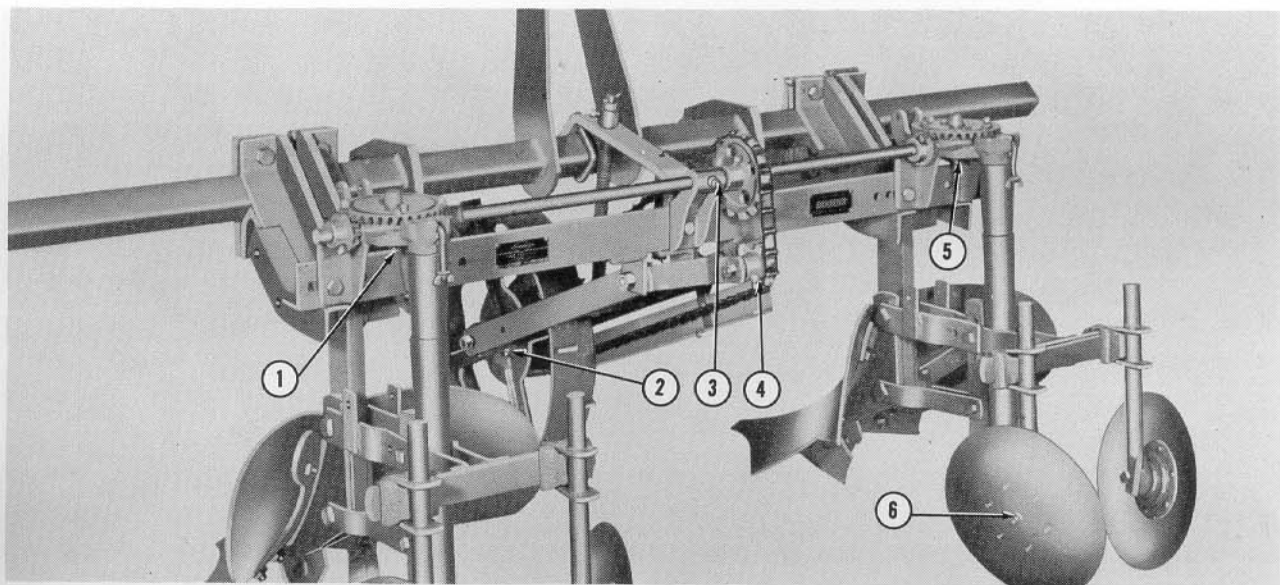

Figure 14
The Dearborn Lister Planter Models 12-26 and 12-28 each have five grease fittings as shown in Figure 14 and one on each of the four disc covers, one of which is indicated by (6), Figure 14.